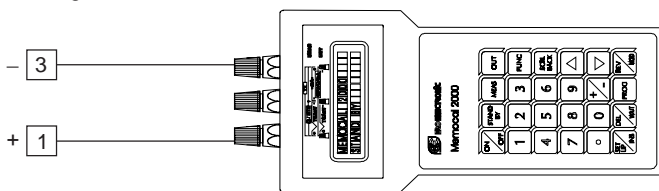

Fig.10
- b) Connect the instrument under test to the calibrator as shown in Fig. 10.